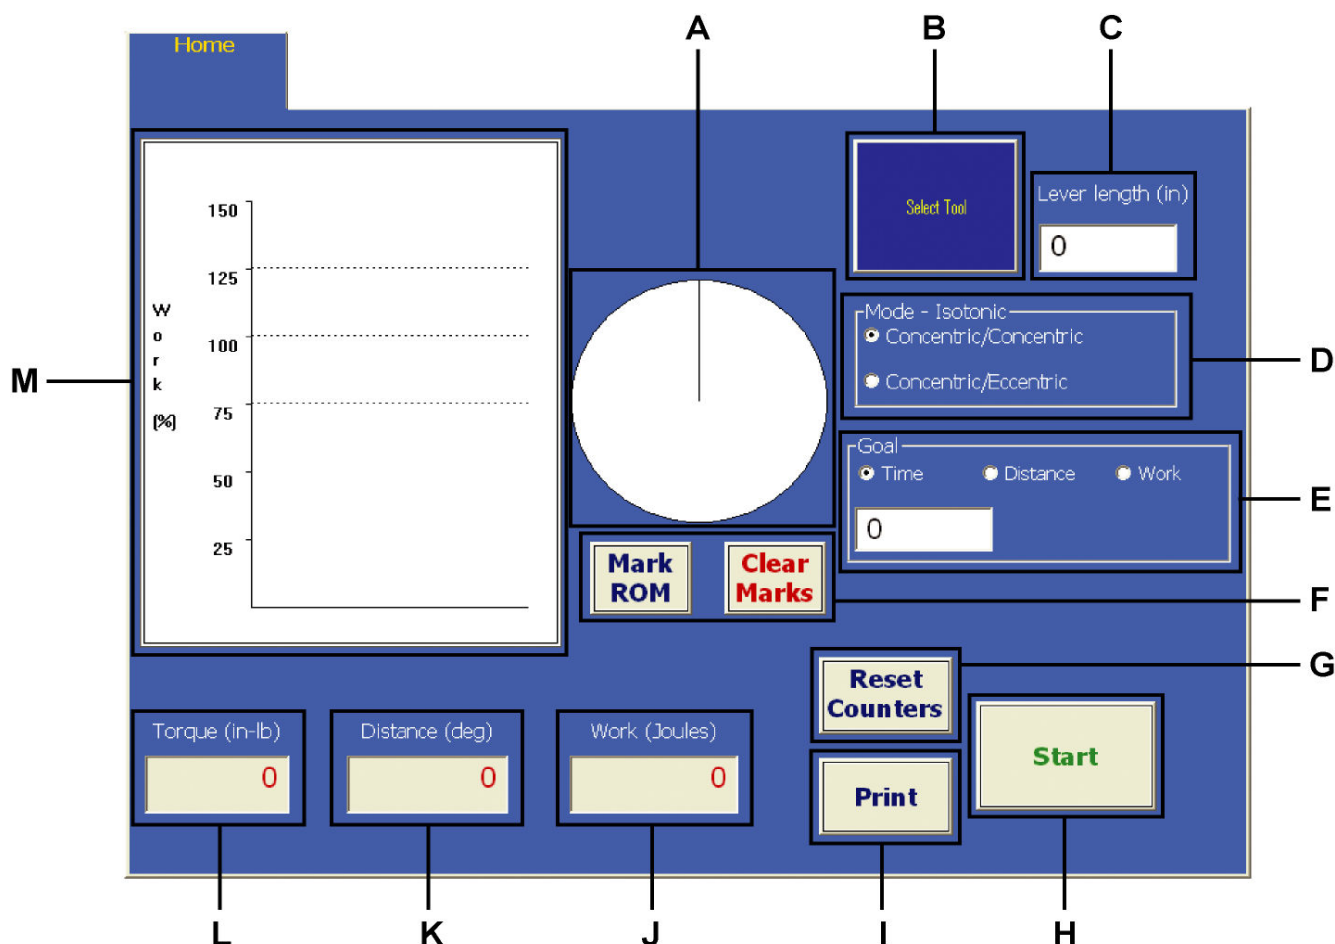
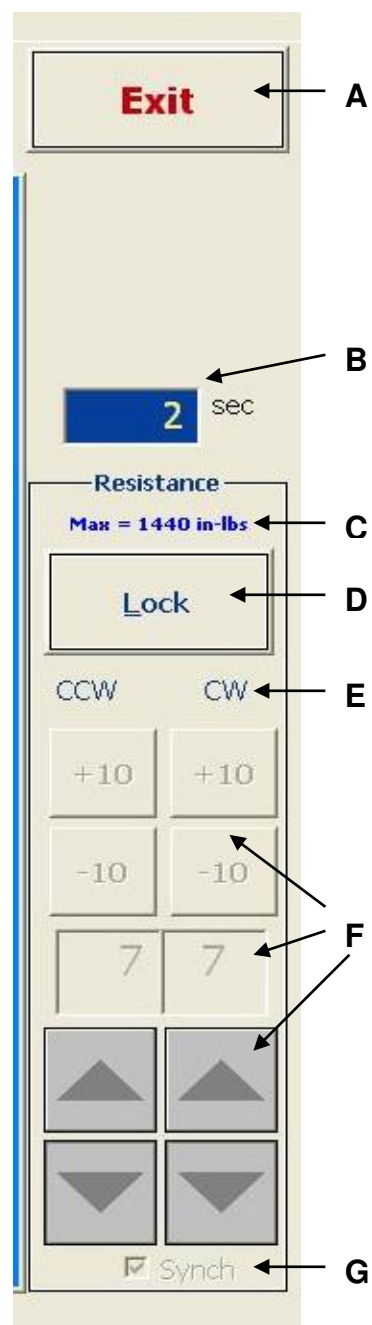

Figure 2e
Figure 2f
The first active screen you will see – *Home* – is highlighted in blue (Figure 2e). *Home* is the first of a series of section titles which appear on the top of the screen. On the right side of the screen is the Control Panel (Figure 2f). This panel is present when in any test- or exercise-related tab as it enables you to alter exercise settings (such as resistance).
Note: If you select “Concentric/Eccentric” operation (Figure 2e - D), the CCW and CW become “CON” and “ECC” respectively.
- Step 1. Start the exercise, as described in Section 2.3.1. At this point, DO NOT click the resistance controls (Figure 2f– F).
- Step 3. Still holding “CTRL,” click or touch the force display window (the field showing a numerical value in (Figure 2f – F).
- Step 4. Having performed Step 3 correctly, you will notice that the “Synch” checkbox at the bottom of the Control Panel is now activated (Figure 2f - G).
- Step 5. Click “Synch” (Figure 2f - G) to remove the checkmark from the small box. This will enable you to set unequal forces in each direction.
- Step 6. Use any of the resistance controls in Figure 2f – F to freely change forces now.